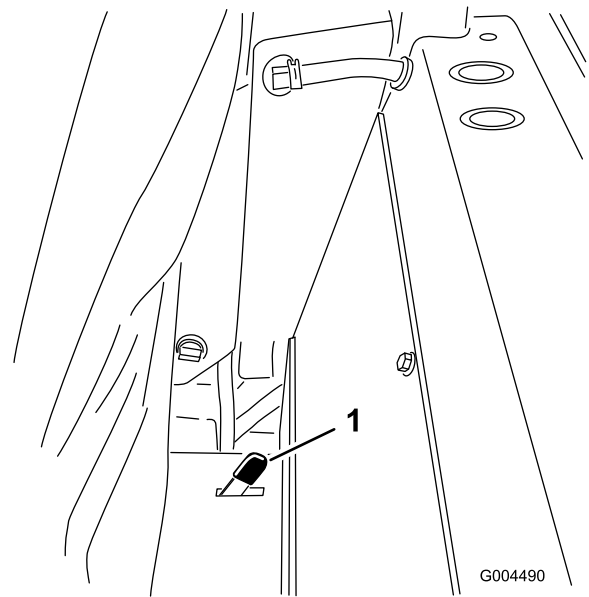

Figure 19
2. Push one of the seat latches, located behind and to the sides of the seat, rearward to unlatch the seat and pull forward on the top of the seat (Figure 19).